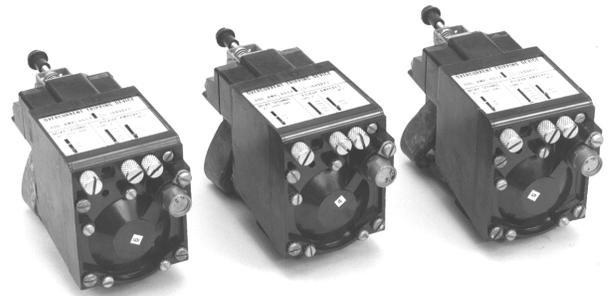
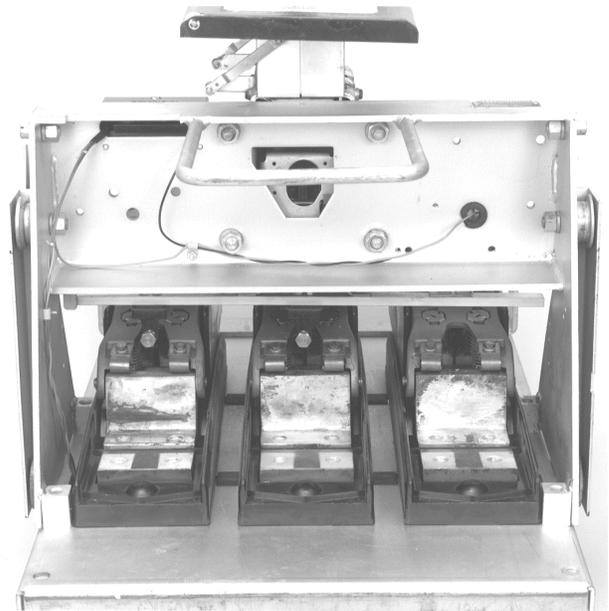

Figure 5. Electromechanical trip devices removed from the breaker.
Figure 6. DB-50 back frame with the electromechanical trip devices removed and ready for conversion.
4. Remove the electromechanical trip devices, shown in Figure 5, from the frame and discard them. The back frame is now ready for conversion, as shown in Figure 6.